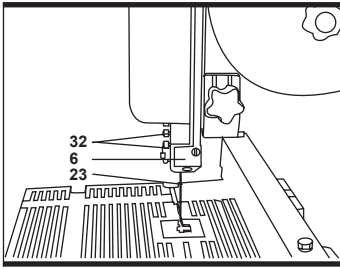

Fig 5
4. Adjusting the blade guide (See Fig 5, 6 & 7)
1) Move the blade guide (7) into a position approximately half way between the table (20) and the machine frame (13).
2) Undo the fixing knobs (2) and open the side cover (3).
3) Undo the two allen screws (32) and remove the blade guard (6) (see Fig5).